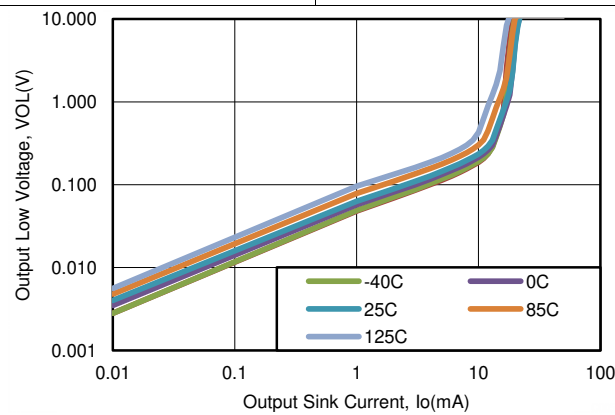

Figure 3. Output Low Voltage vs Output Current (I_{OL})
The output consists of an open collector NPN (pull-down or low side) transistor. The output NPN will sink current when the negative input voltage is higher than the positive input voltage and the offset voltage. The V_{OL} is resistive and will scale with the output current. Please see Figure 3 for V_{OL} values with respect to the output current.
Output current is determined by the load/pull-up resistance and logic/pull-up voltage. The output current will produce a output low voltage (V_{OL}) from the comparator. In which V_{OL} is proportional to the output current. Use Figure 3 to determine V_{OL} based on the output current.
- R_{CE} can be determined by taking the slope of Figure 3 in its linear region at the desired temperature, or by dividing the V_{OL} by I_{out}